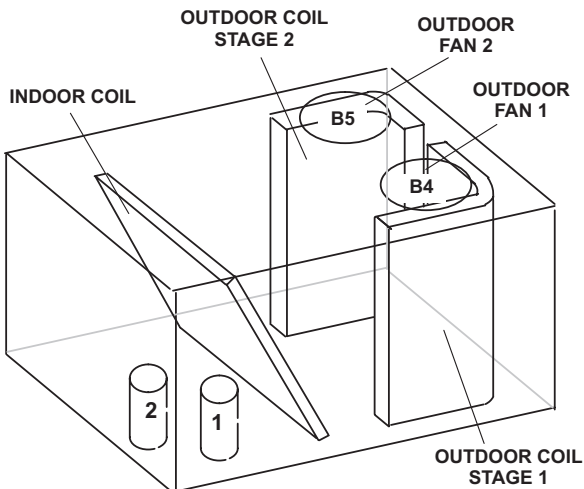
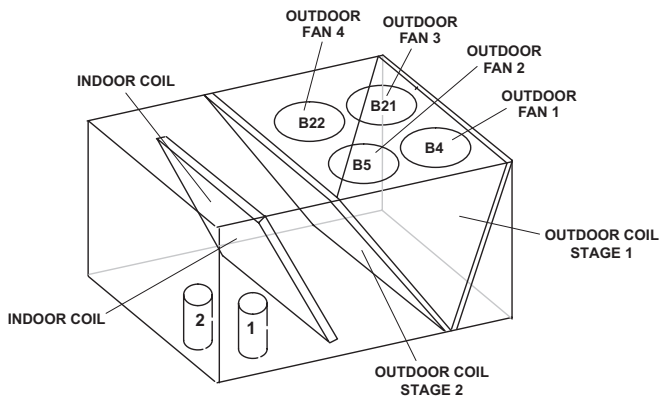

FIGURE 12
FIGURE 13
- 3 - Units have two refrigerant circuits. See FIGURE 12 or FIGURE 13.